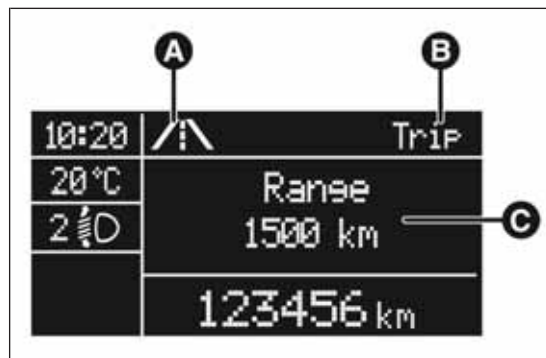

fig. 11
- animated icon in the upper part fig. 11;
- the word "Trip" (or "Trip A" or "Trip B") (B);
- the name, value and unit of measurement of the selected parameter (e.g. "Range 1500 km") (C).